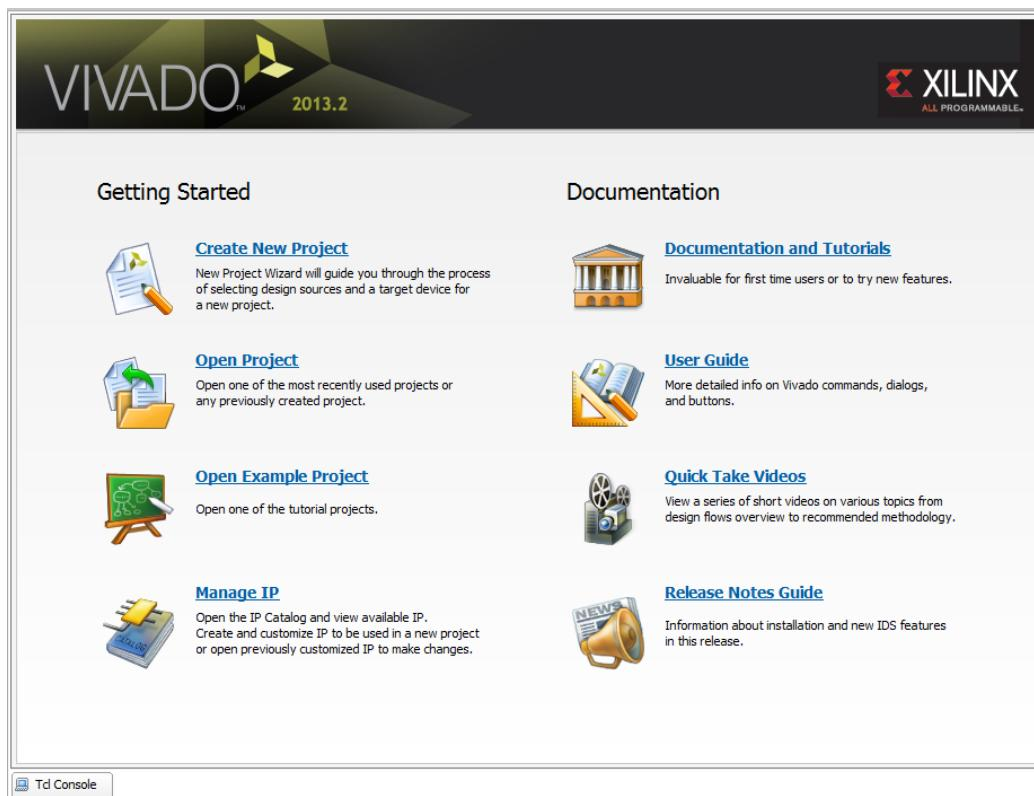

Figure 1: Getting Started Page
1. Start the Vivado IDE (FIGURE 1) by clicking the Vivado desktop icon or by typing **vivado** at a terminal command line.